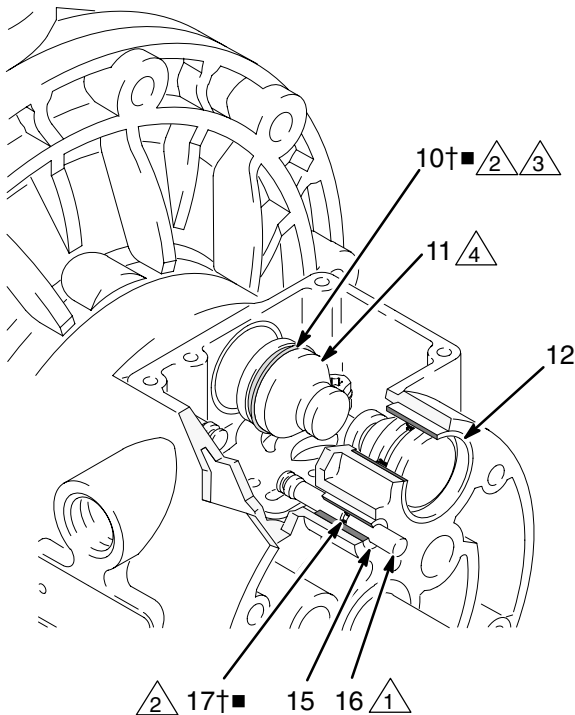

Fig. 9
4. Pull the two actuator pistons (11) out of the bearings (12). Remove the u-cup packings (10†) from the pistons. Pull the pilot pins (16) out of the bearings (15). Remove the o-rings (17) from the pilot pins. See Fig. 9.
6. Inspect the bearings (12, 15) in place. See Fig. 9. The bearings are tapered and, if damaged, must be removed from the outside. This requires disassembly of the fluid section. See page 22.
4. Install an o-ring (17†■) on each pilot pin (16). Grease the pins and o-rings. Insert the pins into the bearings (15), **narrow** end first. See Fig. 9.
5. Install a u-cup packing (10†■) on each actuator piston (11), so the lips of the packings face the **narrow** end of the pistons. See Fig. 9.
6. Lubricate the u-cup packings (10†■) and actuator pistons (11). Insert the actuator pistons in the bearings (12), **wide** end first. Leave the narrow end of the pistons exposed. See Fig. 9.